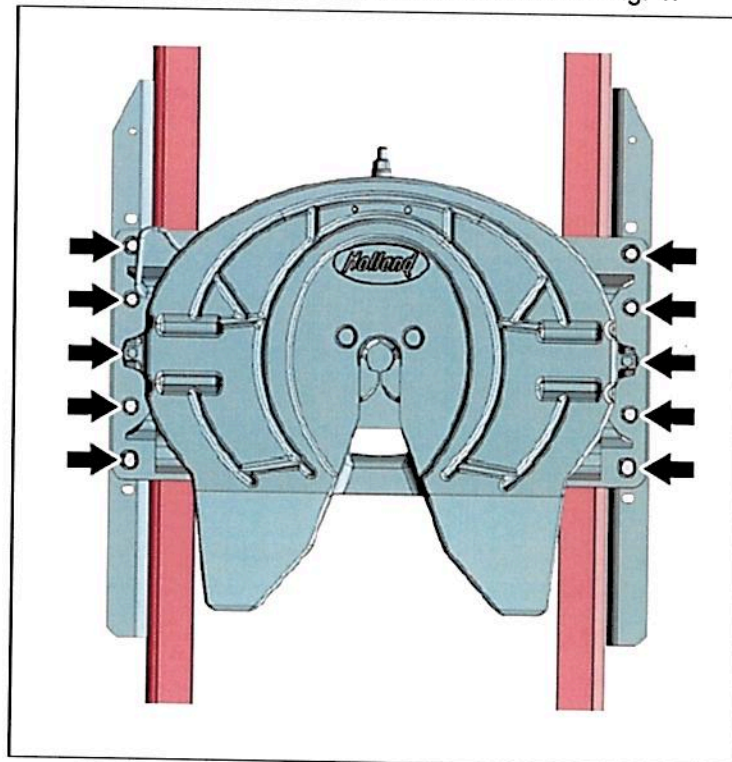

Fig. 1 Fifth Wheel Mounting Fasteners
2. Inspect the bolt heads at the fifth wheel plate to outboard mounting angle to determine the style of fastener used, that is 5/8-11 standard thread or M16 metric thread. See Fig. 1.